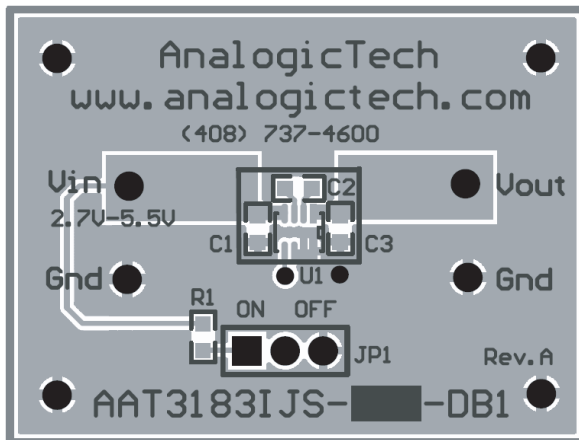
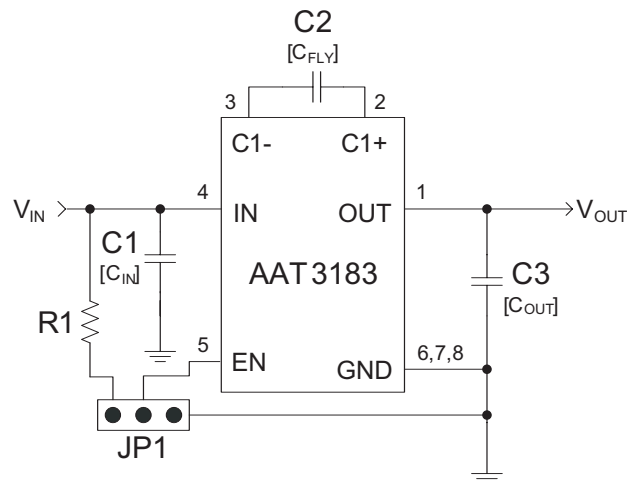

Figure 4: AAT3183 Evaluation Board
Figure 6: AAT3183 Evaluation Board Schematic.
3. A good example of an optimal layout for the AAT3183 is the AAT3183 evaluation board shown in Figures 4 and 5. The evaluation board schematic is shown in Figure 6.